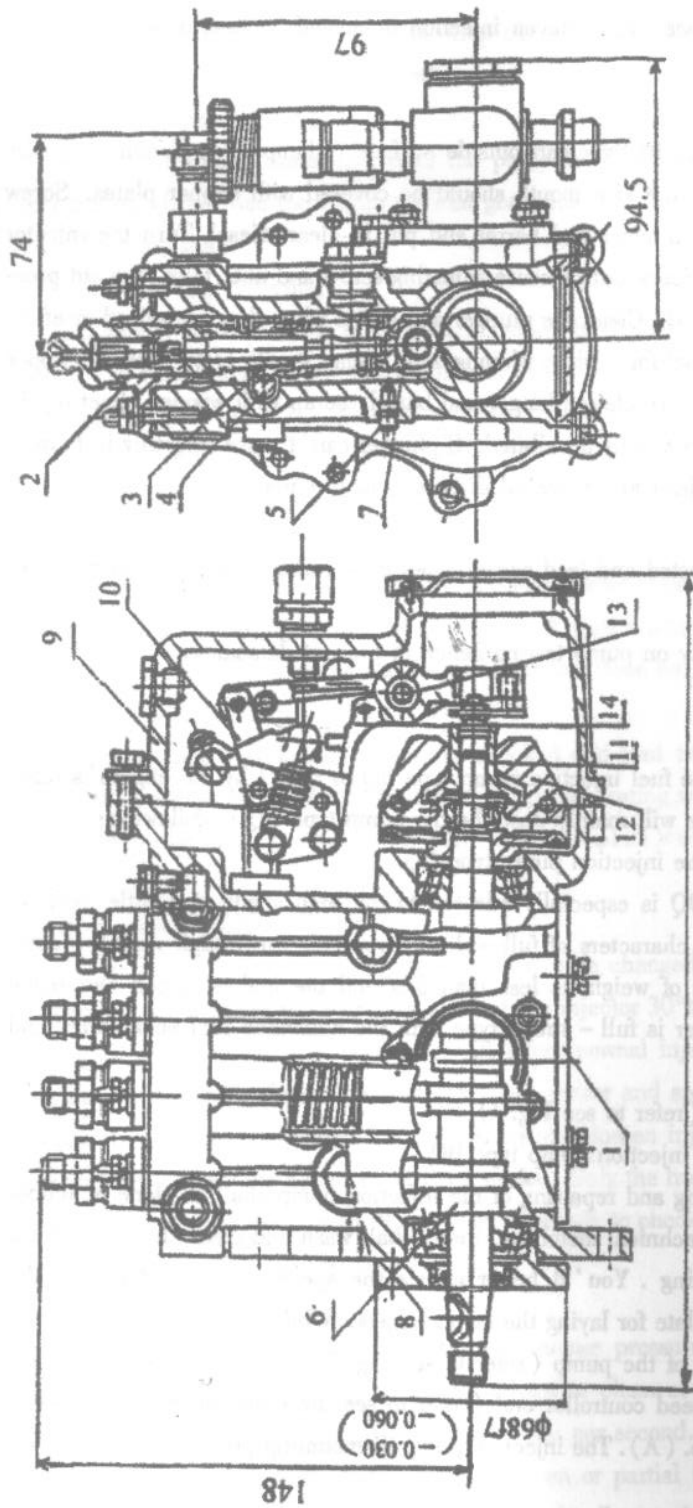

Fig 7 The structural drawing of the injection pump type BQ
B. The structural drawing (refer to see Fig. 7)
The dismantling , inspecting and repairing of the injection pump shall be done at indoor and clean place by the skilled technical members, firstly shall wash and clean the outer of the pump carefully before dismantling . You'd better to use the special tools to dismount the pump and prepare one plastic plate for laying the componenets. While dismantling, you shall firstly dismount the lower cover of the pump (refer to see Fig. 7) drain out the oil , then respectively dismount from the speed controller end (refer to see the dismantling of the speed controller) to the injection pump. (A). The injection pump dismantling procedure(refer to see Fig. 7) :
(B) The dismantling procedures of the speed controller (refer to see Fig. 7):